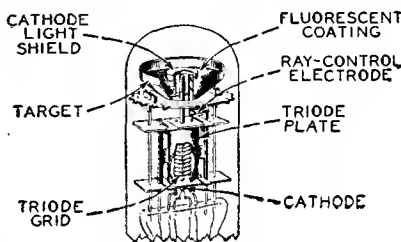

Fig. 64
Electron-ray tubes are designed to indicate visually by means of a fluorescent target the effects of a change in controlling voltage. One application of them is as tuning indicators in radio receivers. Types such as the 6U5, 6E5, and the 6AB5/6N5 contain two main parts: (1) a triode which operates as a dc amplifier and (2) an electron-ray indicator which is located in the bulb as shown in Fig. 64. The target is operated at a positive voltage and, therefore, attracts electrons from the cathode. When the electrons strike the target they produce a glow on the fluorescent coating of the target. Under these conditions, the target appears as a ring of light.